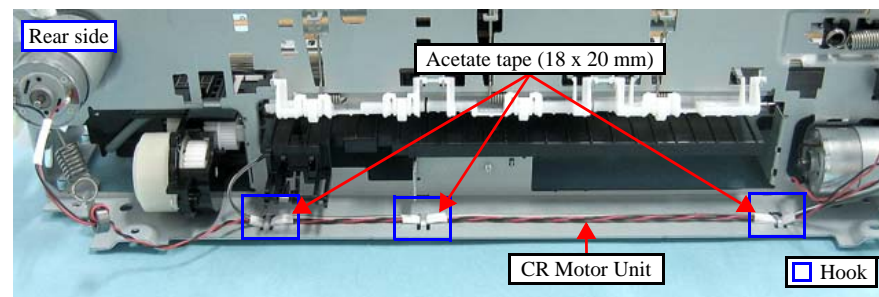

Figure 4-81. Removing the CR Motor (1)
- When the CR Motor has been replaced with a new one, wind acetate tape (18x20 mm, x3) around the CR Motor Cable as shown. (See Figure 4-81.)